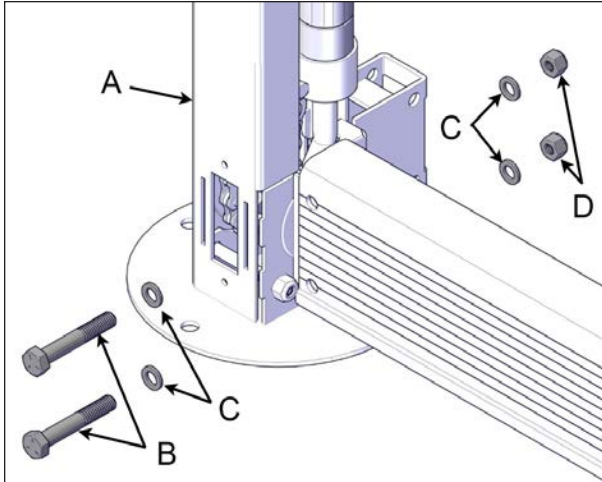

FIGURE 38: LONG U-FRAME INSTALLATION
10. Install the long aluminum U-frame over the left drive shaft and make sure it lines up with the motor-side and non-motor-side jack assemblies. Fasten in place using two hexagonal 5/16"-18 x 2" screws, two 5/16"-18 nylon-insert lock nuts and four 5/16" plastic washers (2 per side) with the 1/2" (13 mm) socket wrench and spanner, see Figure 38.
The drive shaft may fall off during operation, and reassembling can be done faster when the screws have not been fully tightened, see Figure 38.